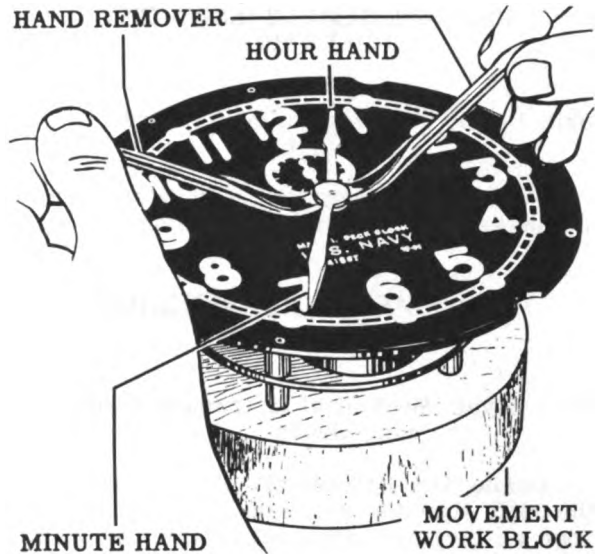

Figure 32
- Using the hand removers with felt pads (Tool No. 2A), remove the minute and hour hands as shown in Fig. 32. Remove the second hand. The purpose of the felt pads on the heels of the hand removers is to put a cushion between the bearing surface of the hand removers and the dial to prevent the dial from being scratched.